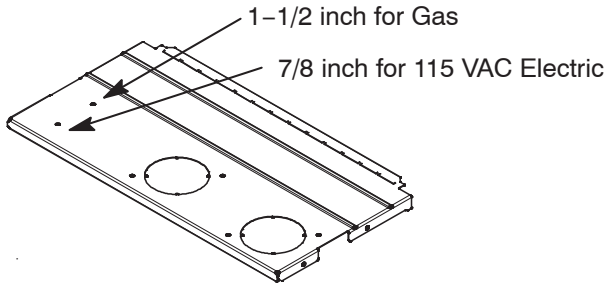

Fig. 34 – Alternate Gas and Electric Entry
NOTE: Check to ensure that external electrical box does not interfere with duct work, gas piping or the indoor coil drain. See Fig. 34 for alternate electric entry through top panel.
1. Drill two (2) 1/8-in. (3 mm) pilot holes through the dimples in the furnace casing near the 7/8-in. knock-out on the side of the casing. Do not remove the knock-out in the side of the casing.
9. Connect field power and neutral leads to furnace power leads inside the external electrical box as shown in Fig. 34.